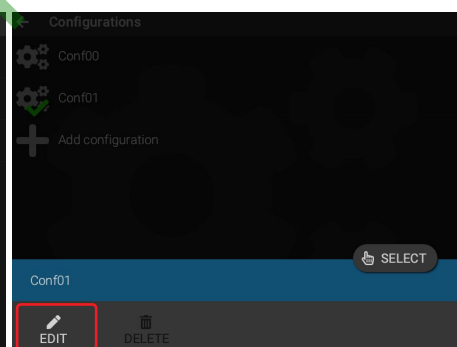

Fig. 33
- Press **EDIT** (Fig. 33): the monitor shows the configuration setting menu.